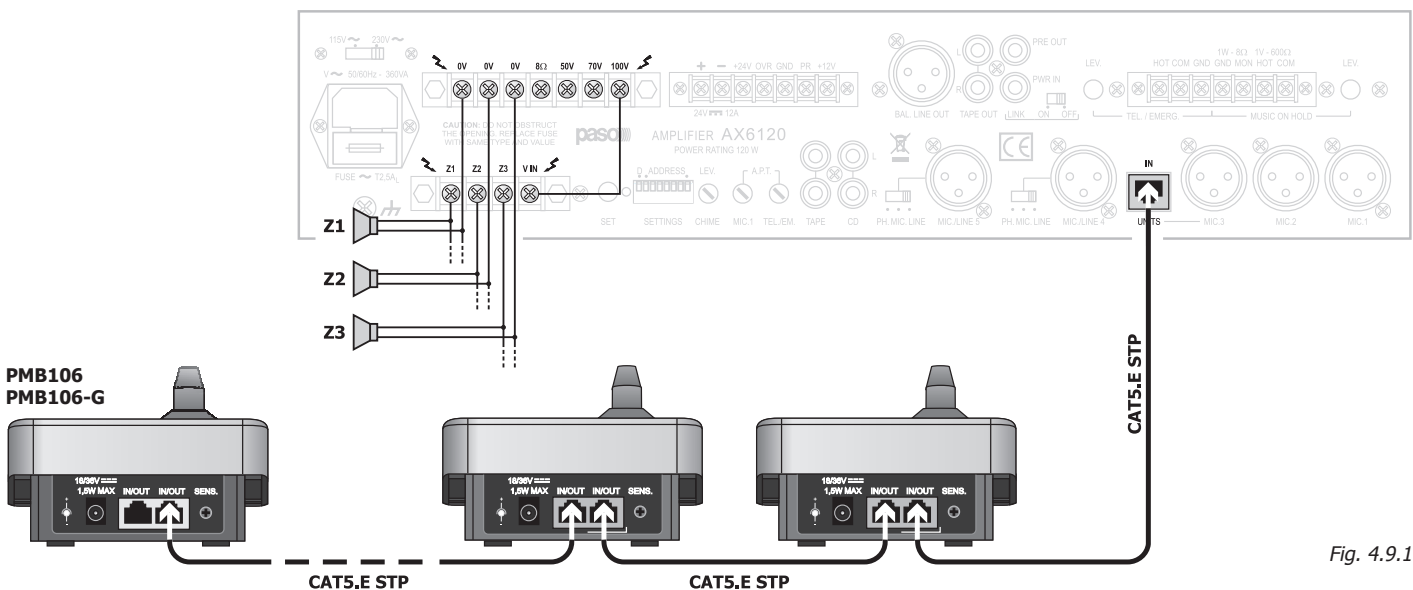

Fig. 4.9.1
Connecting the PMB106/PMB106-G microphone stations to the amplifiers of the AX6000 range is simple and rapidly achieved. Both these pre-amplified microphone stations feature electret microphones, and enable messages to be sent to one or more listening zones. **To connect these two models, it is ESSENTIAL to use STP CAT 5.E cables (shielded).** The selection will be made automatically via connection to the IN UNITS socket (22). An example of a connection for a three-zone calling system is illustrated in Figure 4.9.1. The output level is controlled from the front panel (2).